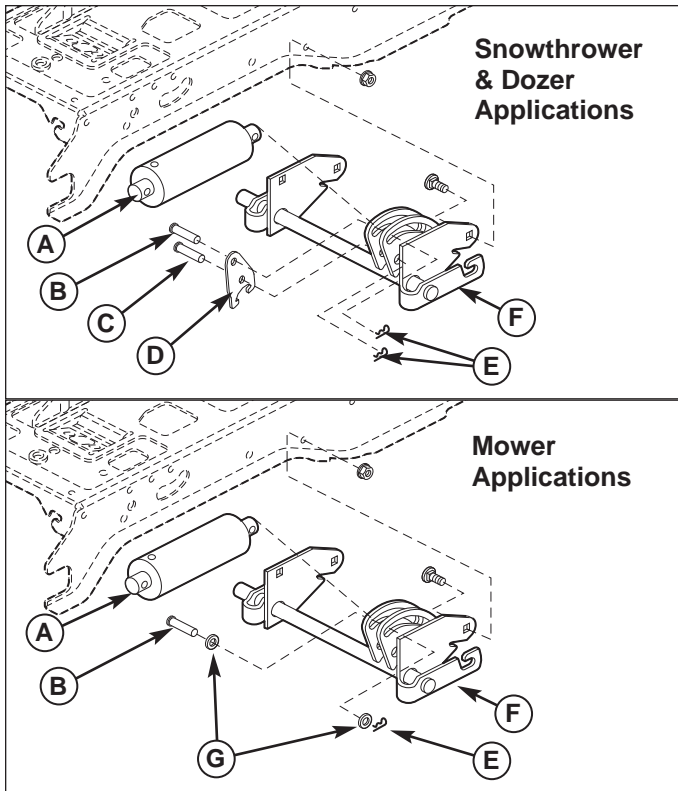

Figure 12. Lift Lock Plate - Hydraulic Lift Models
When using a snowthrower or dozer, the downward pressure lock plate (D, Figure 12) and an additional pin (C) is installed. These parts are included with the attachment. Note that the washers (G) are not used with the lock plate.